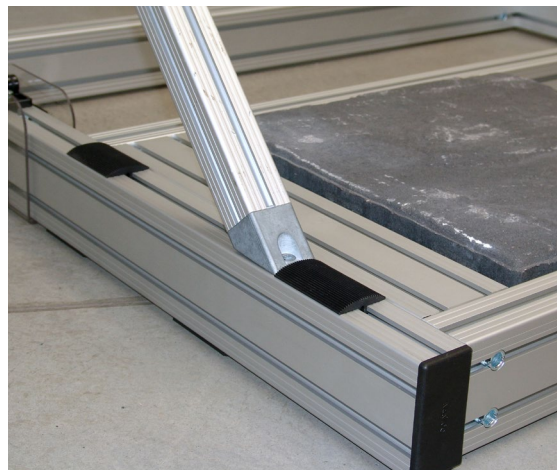

fig. 3.1-25
Step 19 The 4 weights **A4** are now placed in the rear part of the frame base (fig. 3.1-25). When doing so, observe the standard health and safety regulations (20 kg per weight).